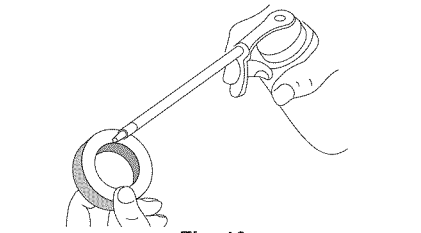

Fig. 16
4. Apply enough clean SAE 30 oil to lightly coat the filter (Fig. 16).